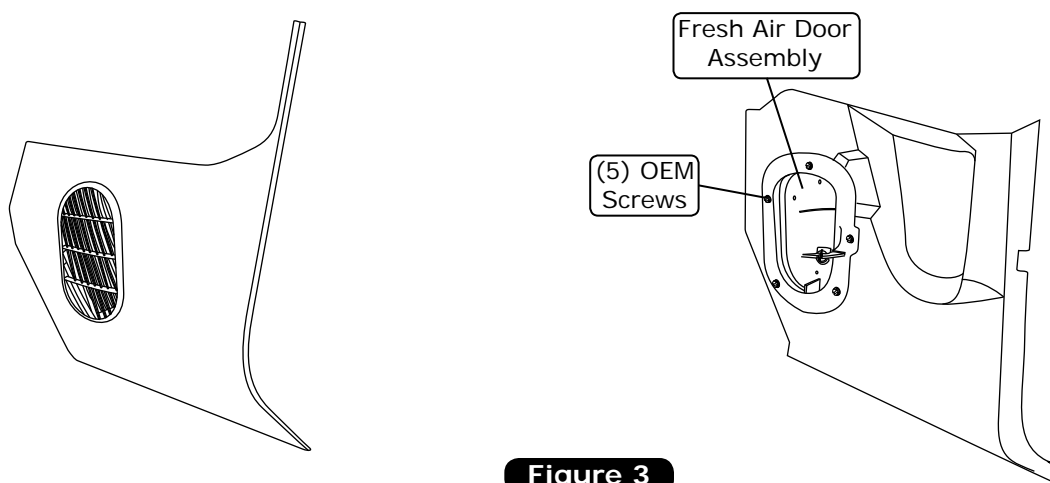
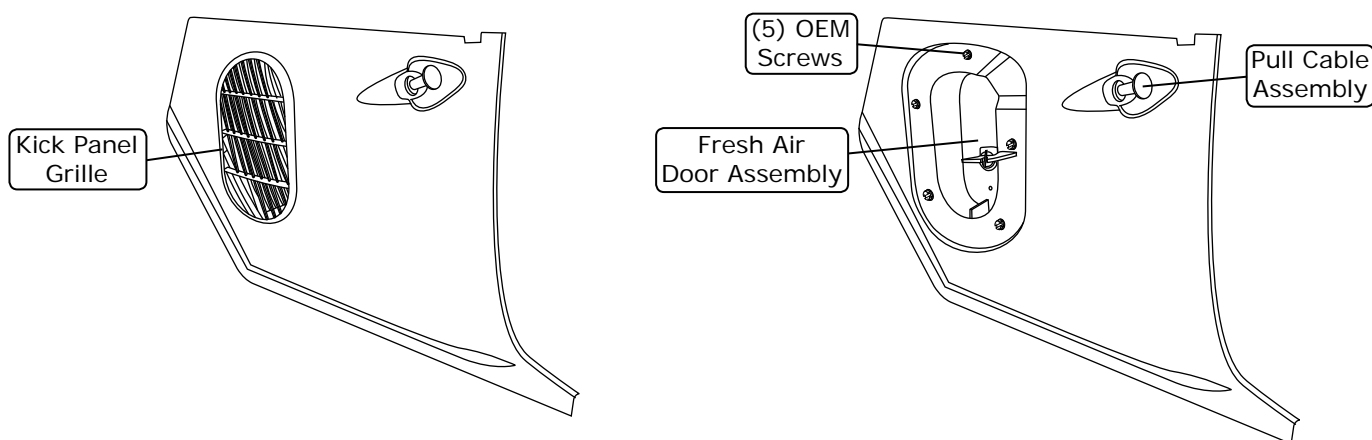

Figure 3
Figure 5
9. Remove the passenger side kick panel/fresh air door assembly (See Figure 3, Page 8, and Figure 5, Page 9).
2. Remove the kick panel fresh air door assembly by removing (5) OEM screws (See Figure 3, below).
3. Disconnect the pull cable assembly from under the dash (discard) (See Figure 3, below).
1. Remove the kick panel grille (discard) (See Figure 5, below).
2. Remove the kick panel by removing (5) OEM screws from the fresh air door assembly (See Figure 5, below).
3. Disconnect the pull cable assembly from the kick panel (discard) (See Figure 5, below).